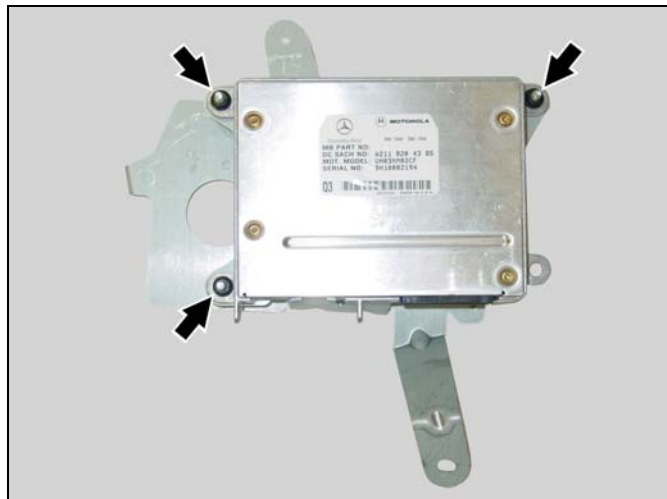

Figure 7
3. Mount the UHI control module to the threaded studs on the bracket backside with three M5 hex nuts (Figure 7).